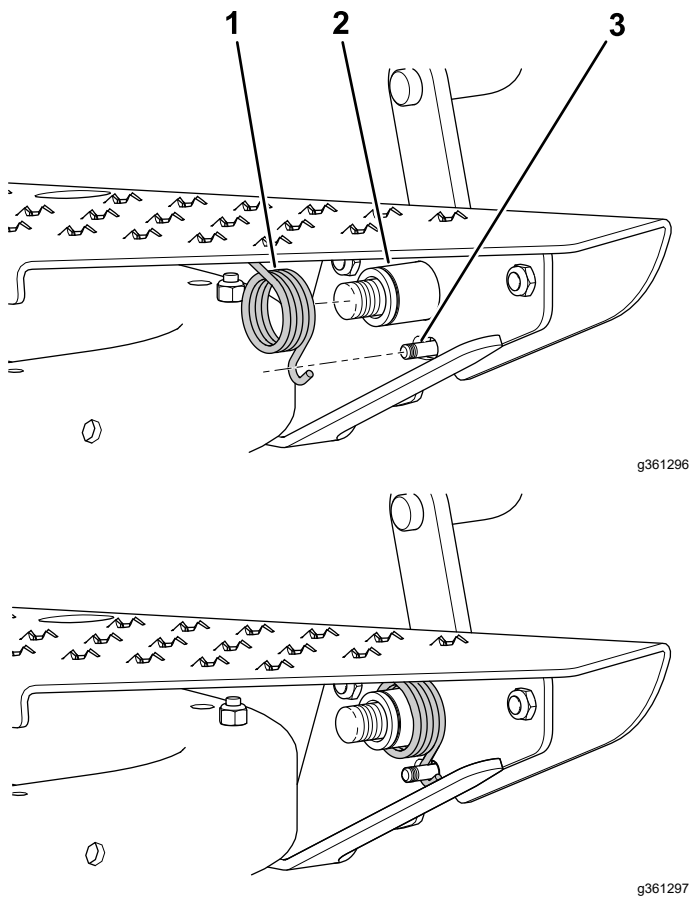

Figure 7
6. Slide the torsion spring onto the hub assembly while hooking 1 end of the spring onto the small pin on the locking pedal and pressing the other end against the floor plate (Figure 7).
Note: Position the spring onto the hub assembly as shown in Figure 7.